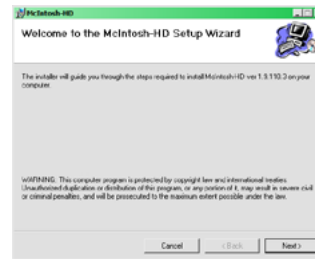

Figure 1
2. Run “McIntoshHDSwPkg_20160415_vlp9p110p3.zip”. Refer to figures 1 thru 4.